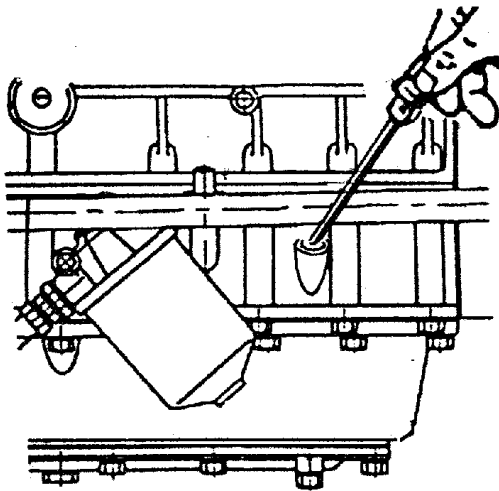

Fig.4-4
(1).Check with oil dipstick the lubricating oil level of engine sump and gearbox, which necessarily remains between the upper and lower scale lines (Fig.4-4 and 4-5). For the four-wheel-drive tractor, it is necessary to check with oil dipstick the oil level of the front axle (front axle in level position), which exists within 5 mm above or below the dipstick scale line. Besides, sufficient cooling water and fuel are needed by the radiator and the fuel tank.